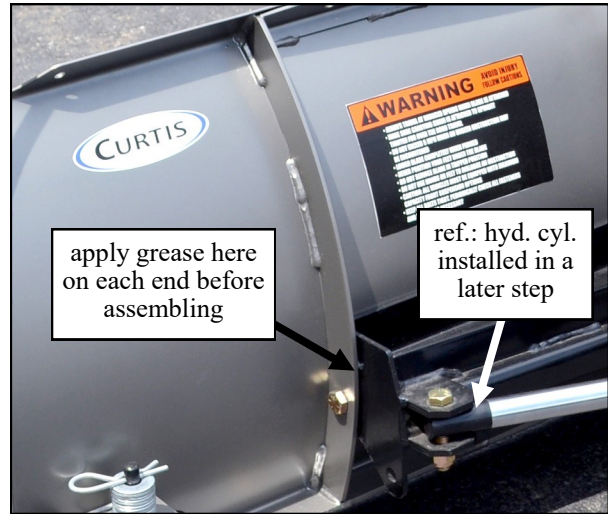

Fig. 1.1—Trip Frame to Moldboard
- 1.1. Per fig 1.1, locate the steel moldboard, trip frame, two 1/2-13 x 2 1/2" bolts, and two 1/2-13 Nylock locking nuts. Apply all-season grease to the mating surfaces on the trip frame and moldboard rib. As shown, line up the mounting hole in the trip frame with the mounting hole on the moldboard rib (near the bottom). Install into the mounting holes a 1/2-13 x 2" bolt as shown. Install a 1/2-13 Nylock nut on the back side of the bolt. Repeat installation of hardware for the right side, orienting the bolt head to face away from the center of the moldboard. Tighten the Nylock nuts until all thread slack is removed from the assembly while allowing the trip-frame to rotate freely.